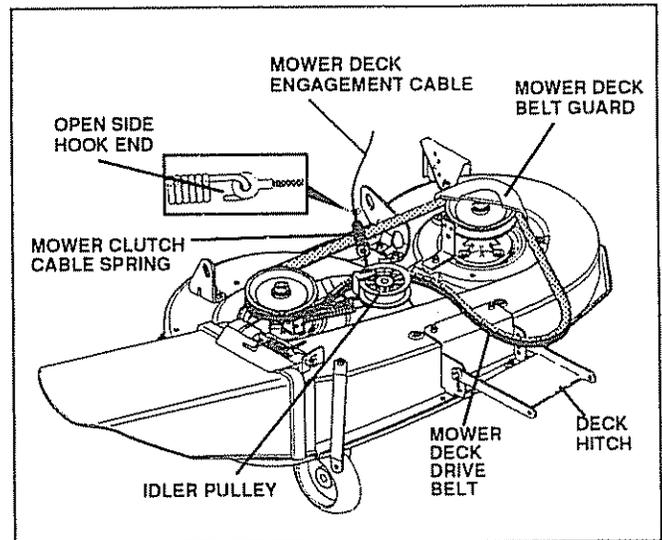

FIG. 24
- Disconnect mower deck engagement cable from mower clutch cable spring (see Fig. 24).
- From left side of tractor, slide deck rearward. Then connect mower deck engagement cable to mower clutch cable spring (see Fig. 24). Be sure open side of spring end is pointed down (see Fig. 24 inset).